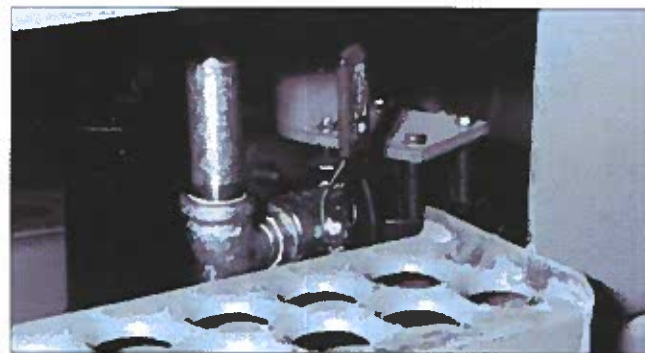
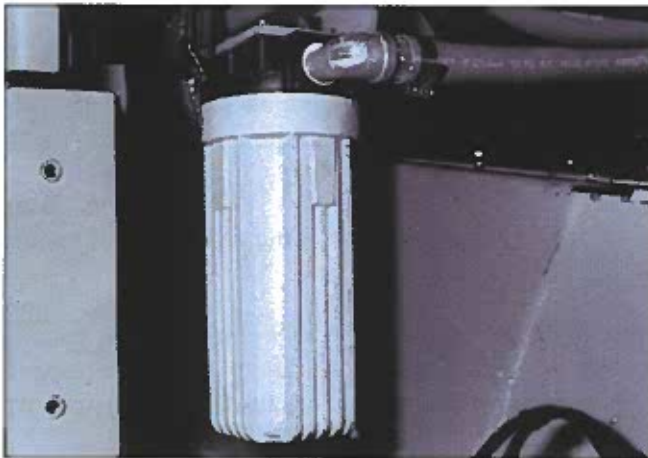

Figure SP-20
Figure SP-21
2. Open the spray water shutoff valve (Figure SP-20) and remove the water filter (Figure SP-21). Empty the filter body and store it in the cab.
5. Close the spray water shutoff valve (Figure SP-20) and replace the water filter (Figure SP-21).